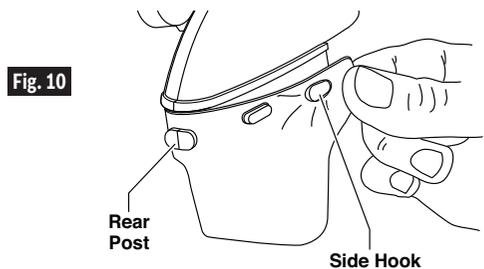

Fig. 10
**Attaching Deflector** – Start by stretching and hooking the deflector over the rear post, followed by hooking over each side hook (see Figure 10).